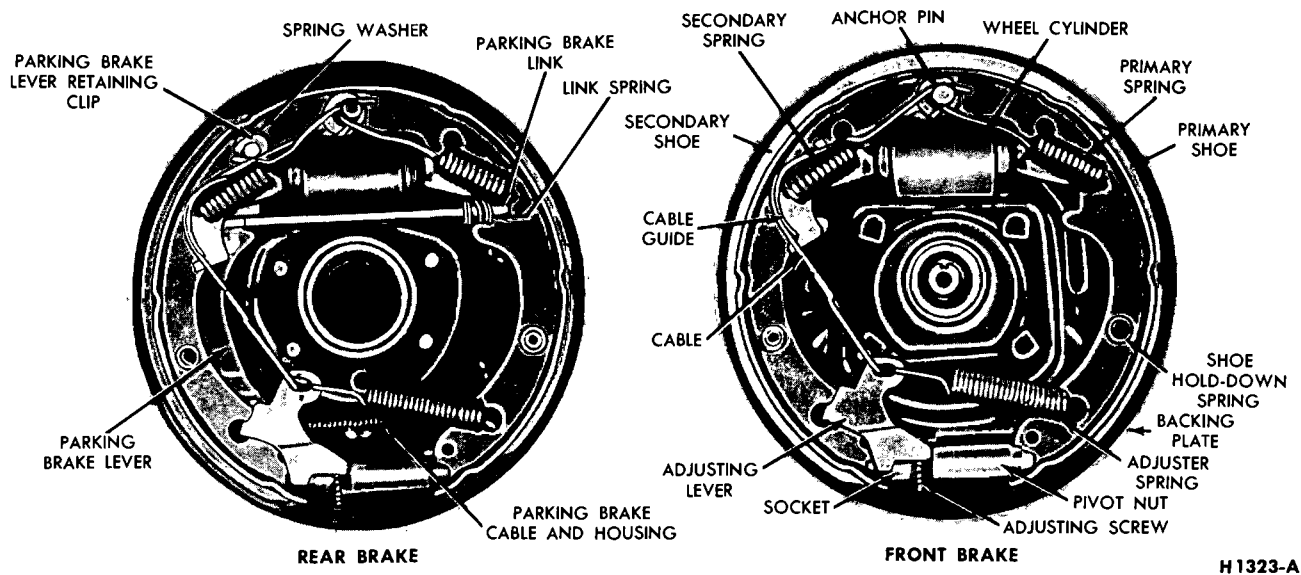

FIG. 9—Self-Adjusting Brake Assemblies—9 Inch Drum
The self-adjusting brake mechanism consists of a cable, cable guide, adjusting lever, and adjuster spring (Figs. 9 and 10). The cable is hooked over the anchor pin at the top and is connected to the lever at the bottom. The cable is connected to the secondary brake shoe by means of the
An independent hand-operated parking brake control actuates the rear wheel brake shoes through a cable linkage. The operating cable is routed from the parking brake control assembly to the equalizer pivot lever which is attached to the equalizer assembly to the floor pan. The rear brake cables connect the equalizer assembly to the parking brake lever at each rear secondary shoe as shown in Figs. 9, 10 and 31.
An independent foot-operated parking brake control actuates the rear wheel brake shoes through a cable linkage. The operating cable is routed from the parking brake control assembly to the equalizer. The rear brake cables connect the equalizer assembly to the parking brake lever at each rear secondary shoe (Fig. 9).
6. After removing the rear brake shoes disassemble the parking brake lever from the secondary shoe by removing the retaining clip and spring washer (Figs. 9 and 10).
3. Position the brake shoes on the backing plate and secure them with the hold down springs. On the rear brake, install the parking brake link and spring. Connect the parking brake cable to the parking brake lever (Figs. 9 and 10).
4. Install the cable guide on the secondary shoe web with the flanged hole properly fitted into the hole in the secondary shoe web. Install the secondary spring (secondary shoe to anchor spring) (Figs. 9 and 10).
10. Position the hooked end of the adjuster spring completely into the large hole in the primary shoe web. The last coil of the spring should be at the edge of the hole. Connect the loop end of the spring to the adjuster lever hole (Figs. 9 and 10).